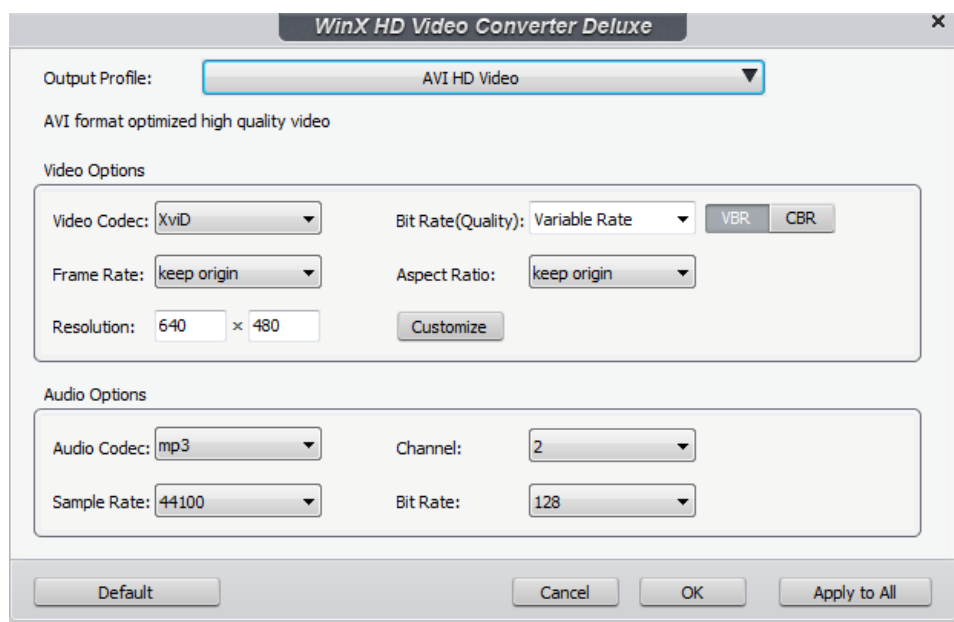

Figure 4.3 Setting AVI Video Output Settings. Here a resolution of 640 x 480 was selected for a GE Logiq Book e system.
4. Set the AVI file output settings for import in MATLAB® (Figure 4.3).